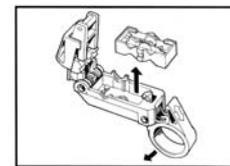

Figure 18
B. Remove the cassette from the tool by moving the locking latch in the direction of the arrow (Fig 18). Then push the cassette out of the tool by inserting wrench, or appropriate object, through hole in bottom of the tool. Turn blade adjustment set screws counterclockwise until they are fully retracted.